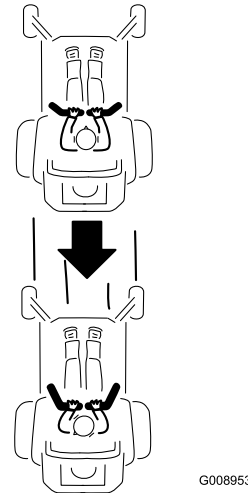

Figure 20
2. To go backward, look behind you and down, as you slowly pull the motion-control levers rearward (Figure 20).
To go straight, apply equal pressure to both motion-control levers (Figure 20).